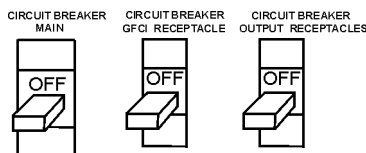

Figure 31. Main, GFCI and Load Circuit Breakers
1. Be sure to disconnect the electrical load and switch the **main**, **load** and **G.F.C.I.** circuit breakers (Figure 31) to the "OFF" position prior to starting the engine.
These receptacles will **ONLY** function when commercial power has been supplied to them (Figure 31). To apply commercial power to these receptacles, a power cord of adequate size will be required.